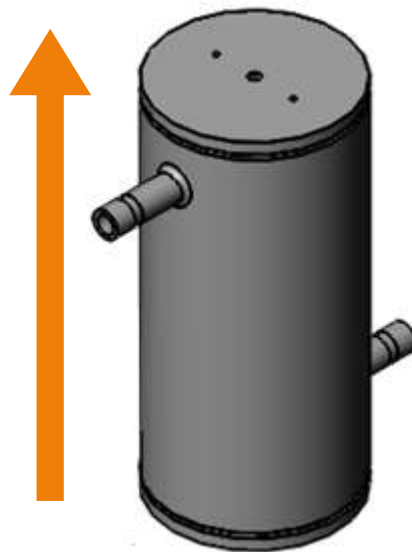

Fig. 3 Schematic diagram
- ② Power capacity above 55W
- ③ IESNA(Illuminating Engineering Society of North America) LM80 experimental method, 70% Lumens depreciation evaluation standard
1. It is recommended to fix the module vertically on a support. Connect to the water network through the quick-connect connector provided along with the module. Pay attention to the inlet and outlet port locations as shown in Figure 3.